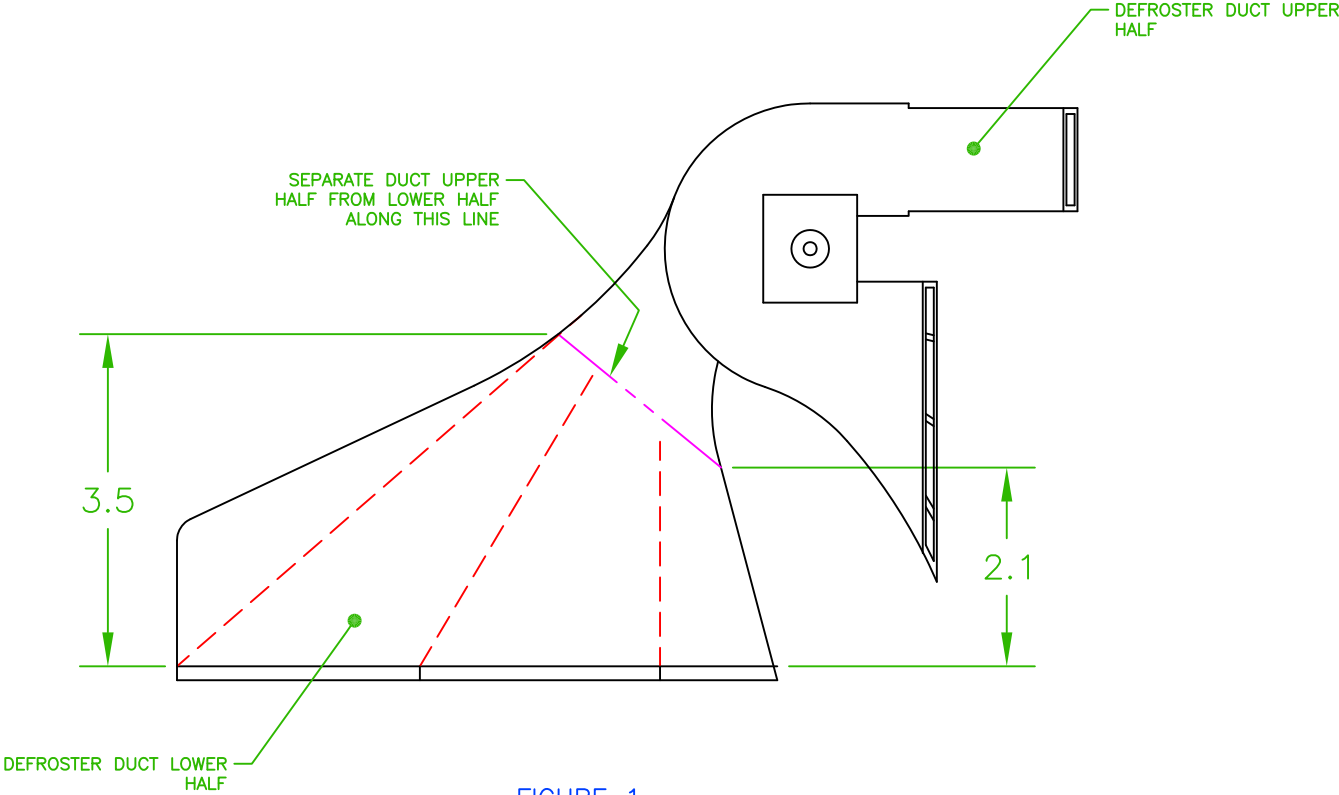

FIGURE 1
1. SEPARATE UPPER HALF OF DEFROSTER DUCT FROM LOWER HALF BY CUTTING ACROSS DUCT NECK AT LOCATION SHOWN IN FIGURE 1. DUCT HALVES WILL BE REJOINED USING DEFROSTER DUCT EXTENSIONS, ITEMS 1 AND 2.